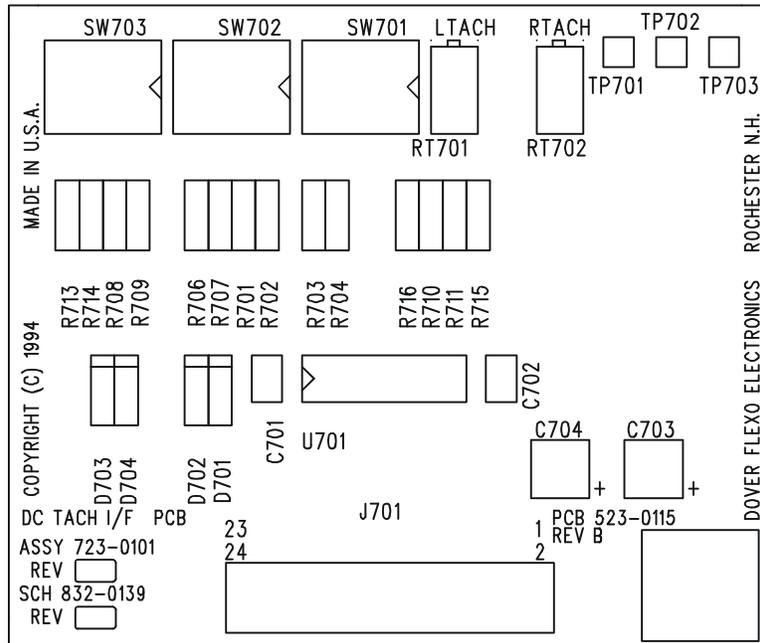

Figure 16 - DC TACHOMETER OPTION CARD
Refer to Figures 16 and 18 for card layout and locations for adjustments.
1. **DC Tachometer card calibration** (See Figures 16, 18 for locations of switches and adjustments)